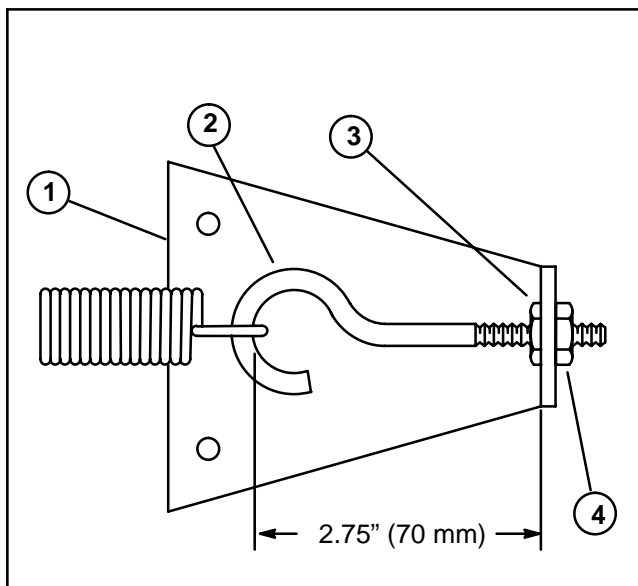

Figure 28
3. Adjust inner locknut until distance between inside of eye bolt loop and inside of spring anchor plate is 2.75" (70 mm) (Fig. 28). Tighten outer locknut.